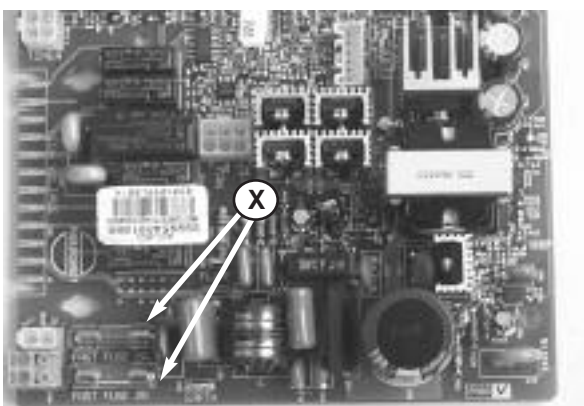

Fig. 111
- Remove the fuses "X" (see Fig. 111)